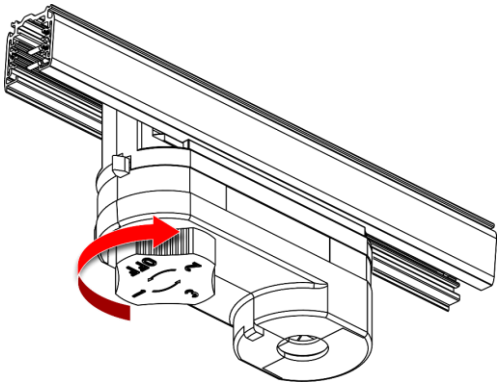

Fig. 10
06) Select the circuit with the **circuit selector (05)**. You can select 1-, 2- and 3-phase circuit, as shown in Fig. 10.